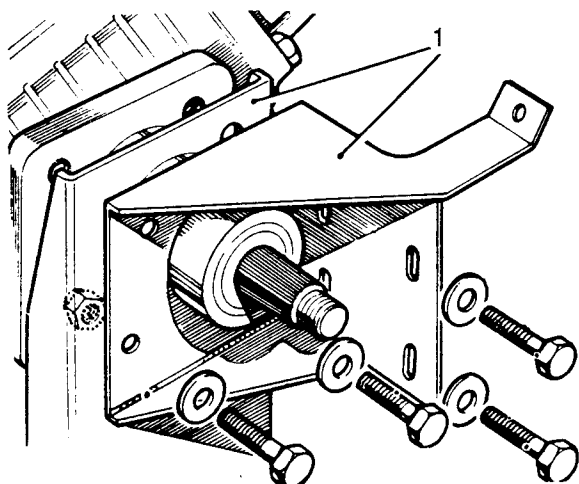

Fig L4.11
(15) Refer to Fig L4.11. If required, remove the stiffener bracket and support bracket (1) from the steering box.